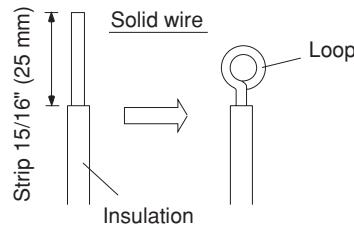

Fig. 27
- (1) Cut the wire end with a cutting pliers, then strip the insulation to expose the solid wire about $15/16"$ (25 mm). (Fig. 27)
- (2) Using a screwdriver, remove the terminal screw(s) on the terminal plate.
- (3) Using the pliers, bend the solid wire to form a loop suitable for the terminal screw.
- (4) Shape the loop wire properly, place it on the terminal plate and fix it securely with the removed terminal screw using a screwdriver.